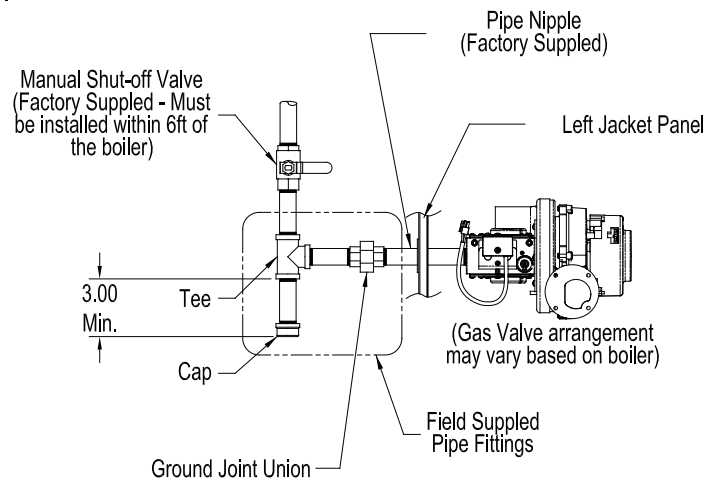

Figure 25: Recommended Gas Piping
- d. Install sediment trap, ground-joint union and manual shut-off valve upstream of mounted factory supplied manual shut-off valve. See Figure 25.
2. **Individual module (boiler) recommended gas piping detail** - see Figure 25.